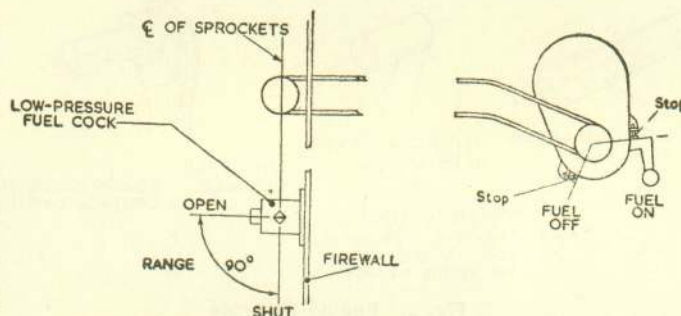

Fig. 8. Low-pressure fuel cock control setting
**Low-pressure fuel cock (fig. 8)**
14. (1) Set the cabin control lever in the mid-position.